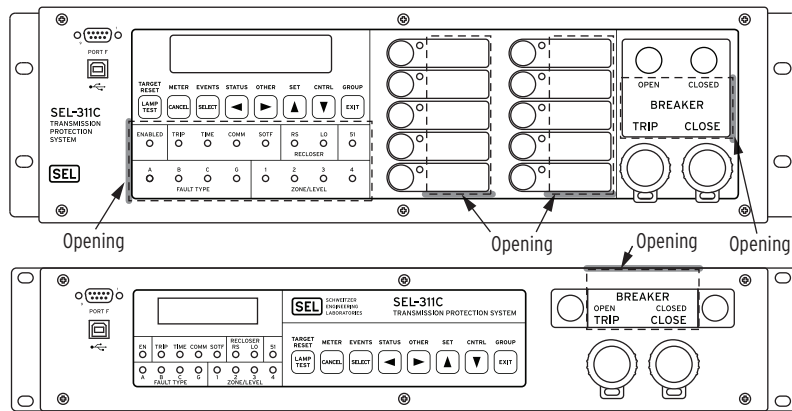
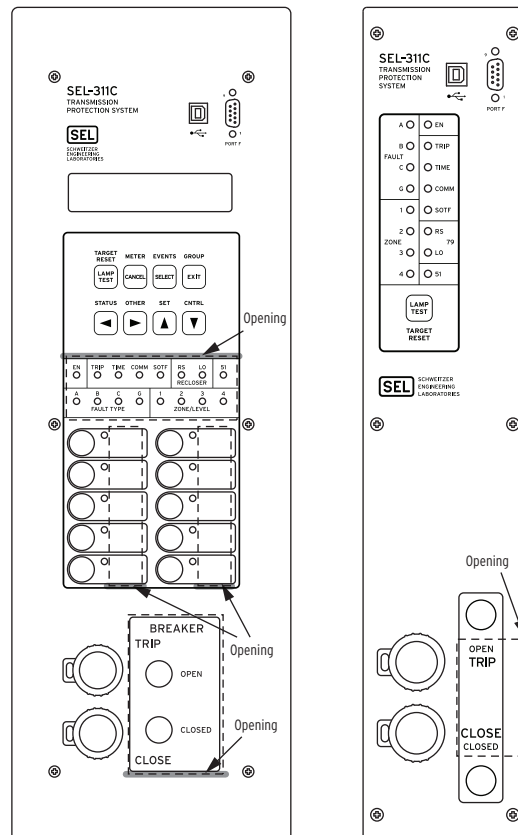

Figure 1 Typical SEL-311C Configurable Label Areas (Horizontal)
Figure 2 Typical SEL-311C Configurable Label Areas (Vertical)
The SEL-311C Configurable Labels Kit provides the materials and information needed to customize the target LED and operator control pushbutton areas of the front panel. *Figure 1* and *Figure 2* show the pocket areas and openings.
Step 1. Slide the tip of the tool under the label at the pocket opening (see *Figure 1* and *Figure 2* for example opening locations).